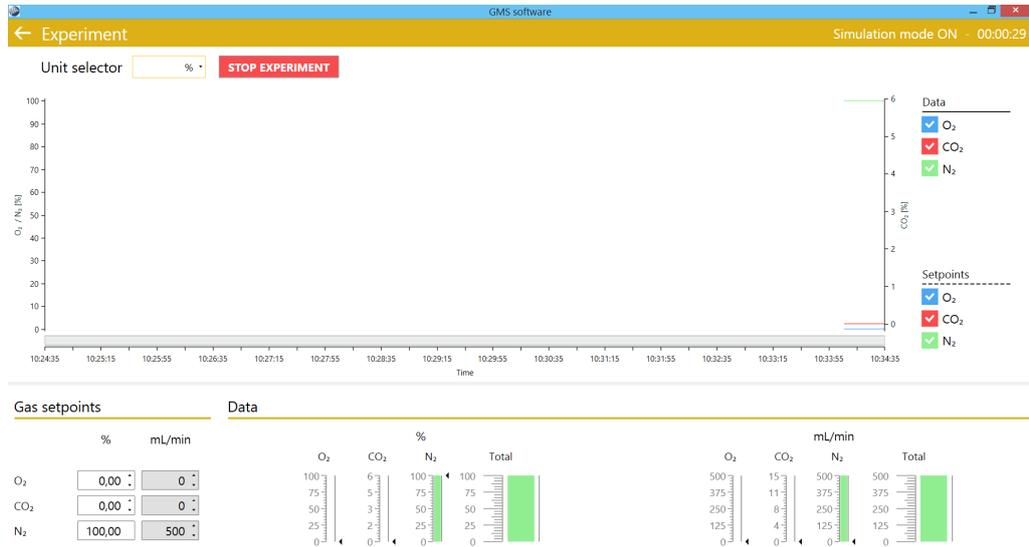

Figure 7: Manual mode.
1. Select a gas unit (1, Figure 7).
2. Set the O₂ concentration/flow in the gas setpoints field (2, Figure 7).
3. Set the carbon dioxide concentration/flow in the gas setpoints field (3, Figure 7).
4. Stop the experiment upon completion (4, Figure 7).